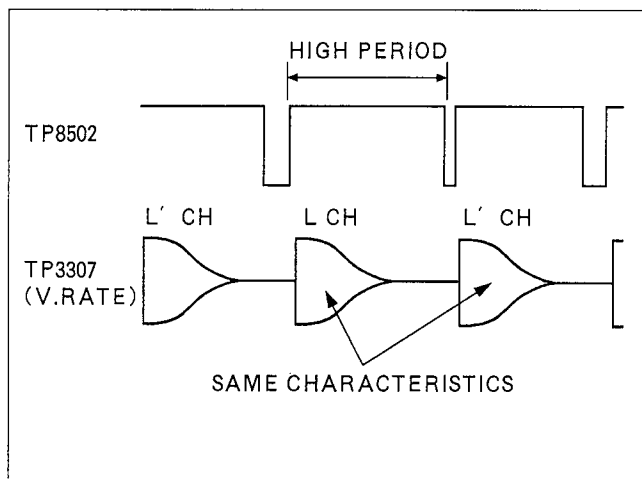

Figure E14-A
5. Adjust VR3008 so that the L CH and L' CH frequency responses become same characteristics as shown in Figure E14-A.
6. Rotate the JOG DIAL so that the low period of TP8502 becomes longest as shown in Figure E14-B.